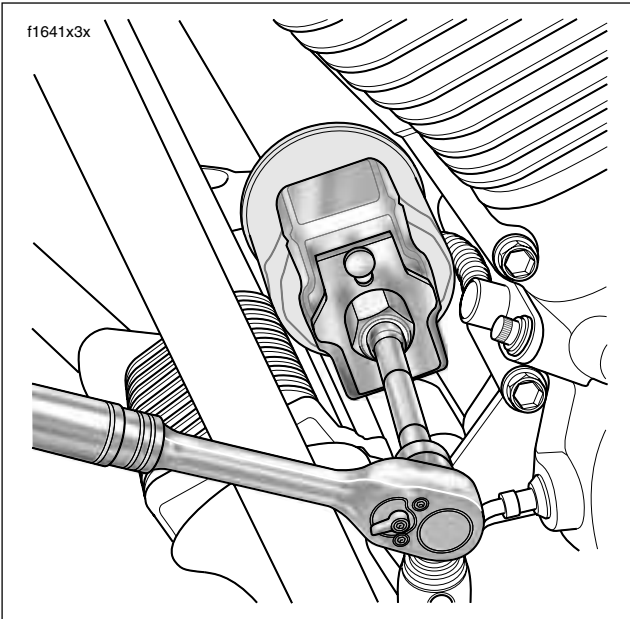

Figure 3-3. Remove Engine Oil Filter
- b. Place the jaws of the wrench over the oil filter with the tool oriented vertically. See Figure 3-3.